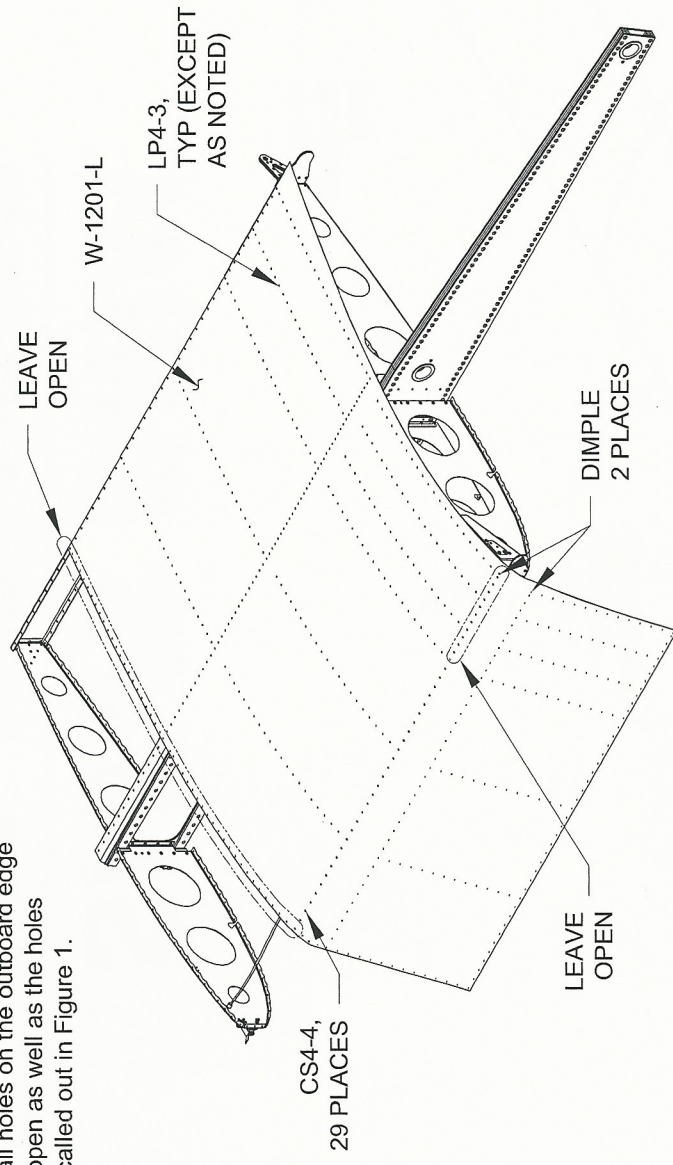

FIGURE 1: ATTACHING INBD WING SKIN (LEFT WING SHOWN)
Step 2: Dimple the W-1201-L Inbd Wing Skin in two places as shown in Figure 1. Cleco then rivet the inbd wing skin to the bottom of the wing leaving all holes on the outboard edge open as well as the holes called out in Figure 1.